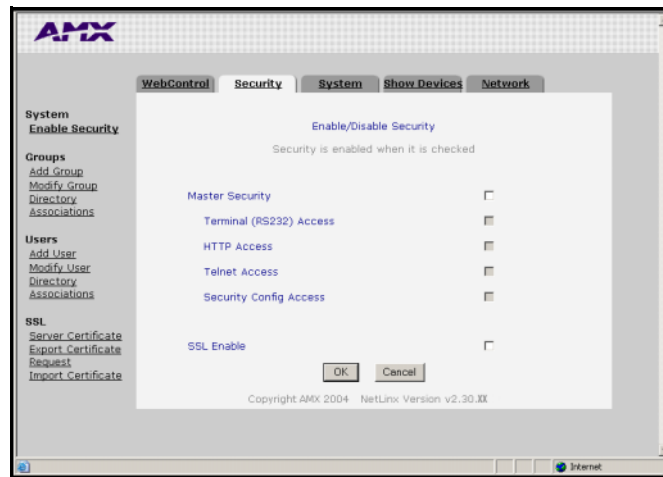

FIG. 38 Security tab - showing NetLinx Master security options
3. Click the **Enable Security** link (on the left of the browser window) to populate the Security tab with NetLinx Master security options (FIG. 38) that can individually be enabled or disabled.